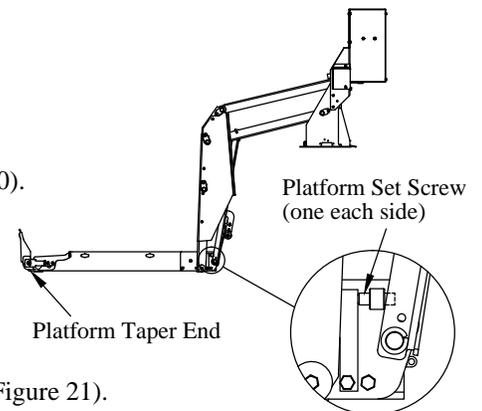

Figure 20: Platform.
3. **Adjust** the platform set screws until the platform taper end rests on the ground (Figure 20).